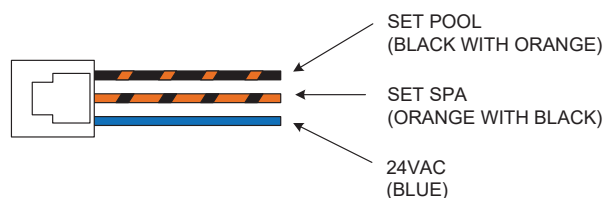

Figure 56. 3-Wire Remote Interface Harness
5. On the "Remote Interface Harness", connect the BLUE wire to one side of the "REMOTE" switch and connect the other side to either the ORANGE/BLACK wire for "SPA" operation or the BLACK/ORANGE wire for "POOL" operation. See **Figure 56**.
4. On the 3-wire "Remote Interface Harness" connect the BLUE wire to one side of the "REMOTE" switch and connect the ORANGE/BLACK wire for "SPA" operation and the BLACK/ORANGE wire for the "POOL" operation. See **Figure 56**.